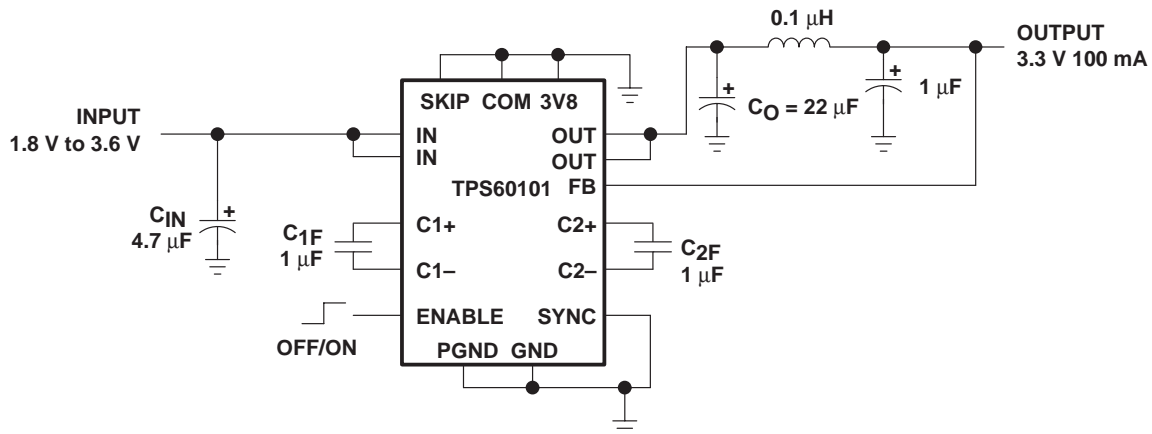

Figure 34. TPS60101 with LC Filter for Ultra Low Output Ripple Applications
For applications where extremely low output ripple is required, a small LC filter is recommended. This is shown in Figure 34. The addition of a small inductor and filter capacitor will reduce the output ripple well below what could be achieved with capacitors alone. The corner frequency of 500 kHz was chosen above the 300 kHz switching frequency to avoid loop stability issues in case the feedback is taken from the output of the LC filter. Leaving the feedback (FB) connection point before the LC filter, the filter capacitance value can be increased to achieve even higher ripple attenuation without affecting stability margin.